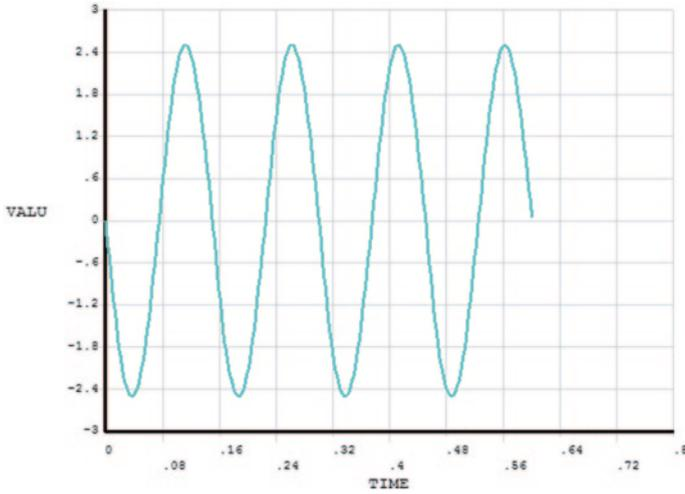

Fig. 8.102 Time variation of the y -displacement at node 2
- The plot appears in the *Graphics Window*, as shown in Fig. 8.102.